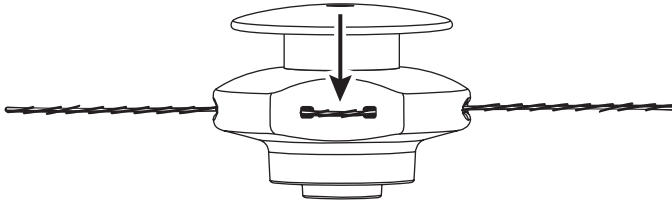

Fig. 7
- Pull the ends through making sure that the ends are of equal length and the middle of the line is centered between the insertion holes (Fig. 7).